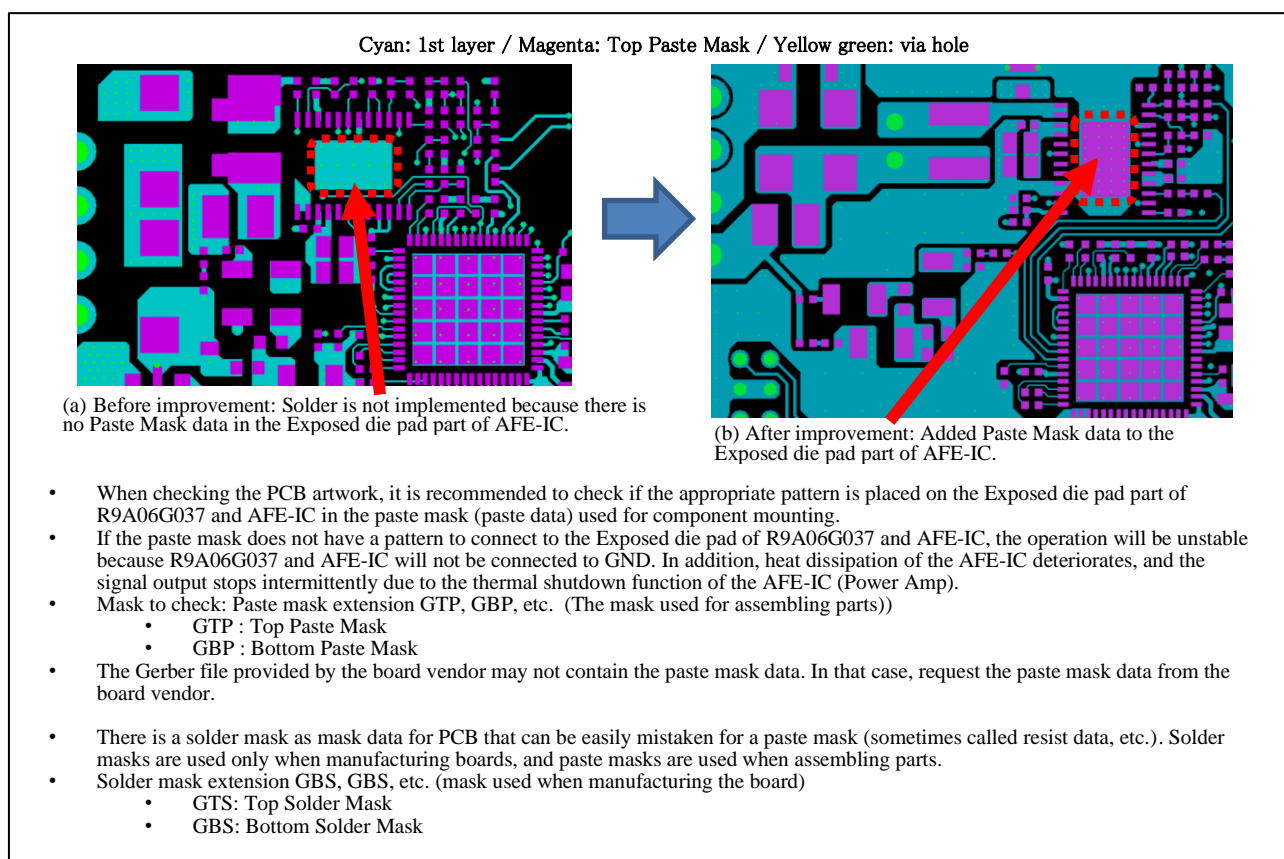

Figure 2-13 Example of checking the paste mask (paste data) used for component mounting
- When checking PCB artwork, in the paste mask (paste data) used for component mounting, it is recommended to check if the appropriate pattern is placed on the exposed die pad part of R9A06G037 and AFE-IC. (See Figure 2-13 for details)